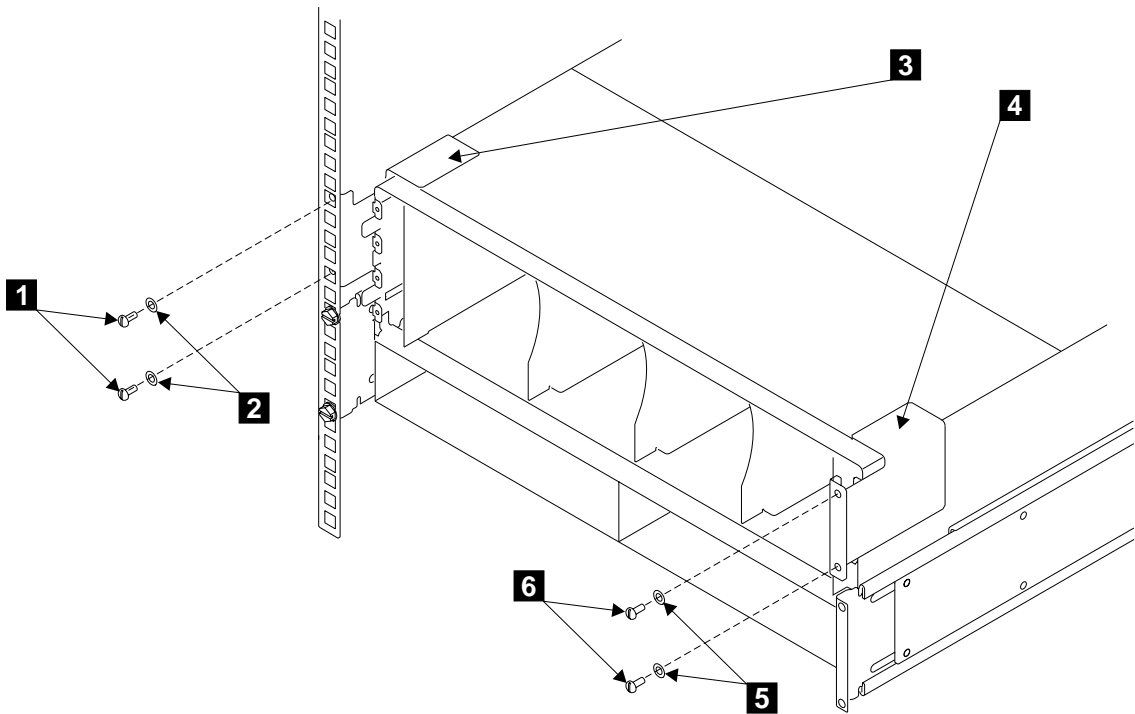

Figure 131. Removing the Back Brackets
Refer to Figure 131.
- a. Refer to Figure 131 on page 232.